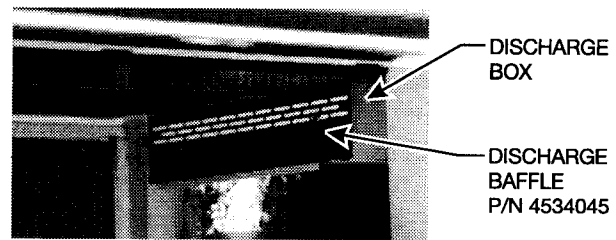

Figure 4
8. Remove the protective film from the discharge baffle (4534045) and install it on the discharge box. Position the baffle so the three rows of holes are on top. Secure it in place with two of the black hex head screws (1451097) **See Figure 4.**